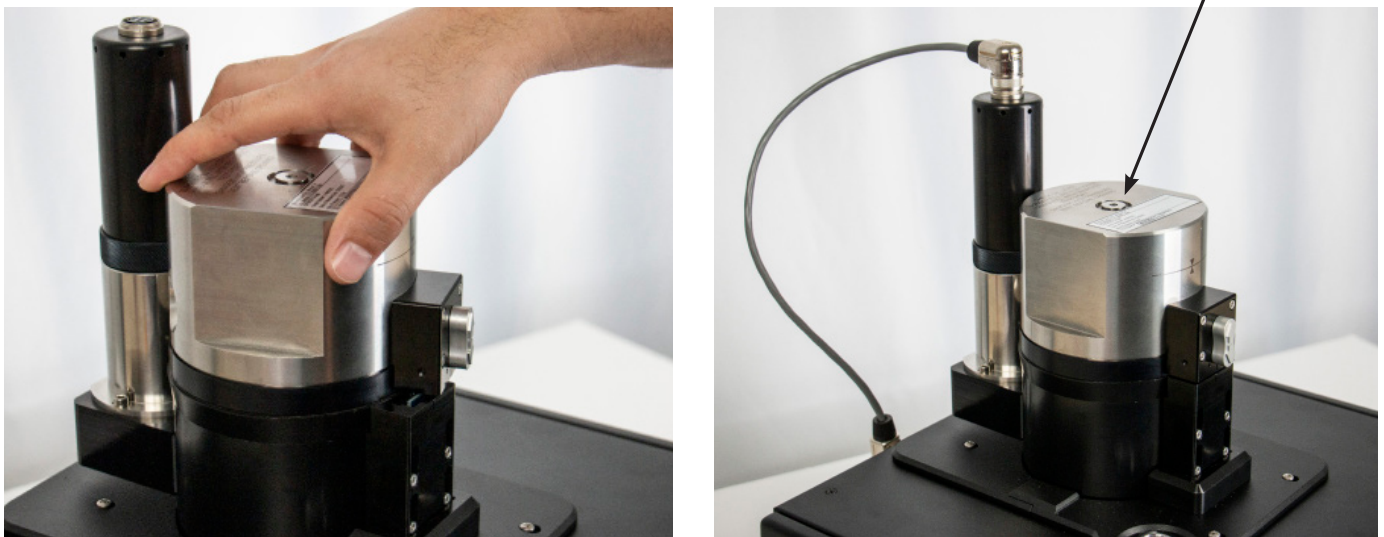

Figure 5.4.2-E Securing the Head
- For CPS8500G measuring heads greater than or equal to 10 bar measuring range (Kn with 1 bar/ Kg or higher), the head needs to be lubricated with oil. Using a syringe, add lubrication oil to the head by unscrewing the 7/16"-20 SAE plug on top of the CPS8500G (Figure 5.4.2-F). The level of the sebacate/drosera oil needs to meet the requirements below. For normal operation and lubrication of the piston inside the measuring head, it is recommend that the oil is visible from the top port.